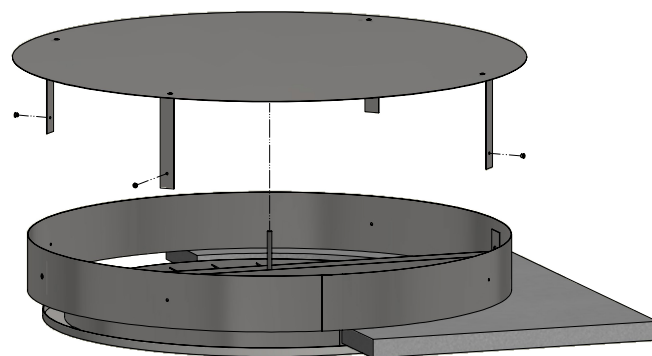

Figure 12: Light Baffle Installation to SD5/C
- Rivet light baffle to extract collar as in figure 12